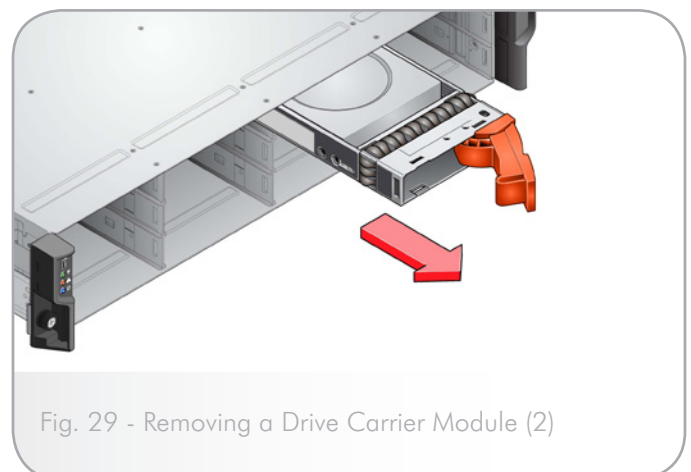

Fig. 29 - Removing a Drive Carrier Module (2)
3. Gently withdraw the Drive Carrier module approximately 1 inch (25mm), and wait 30 seconds (see Fig. 29).